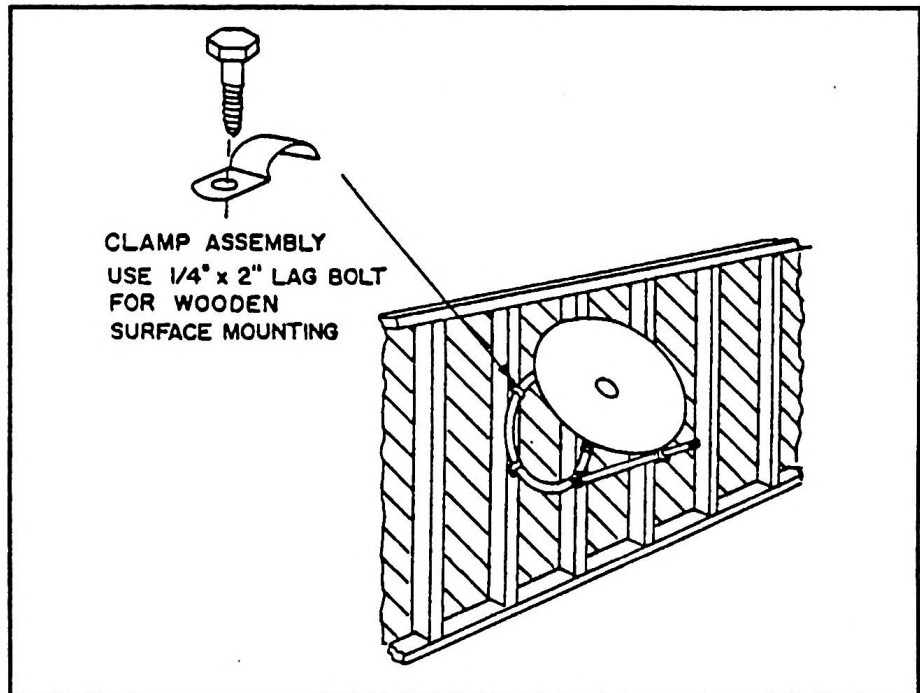

Figure 4-5. Wall Mount
1. Refer to Figure 4-5. Place the antenna mounting ring/reflector
4. Secure the mounting ring/reflector assembly to the wall studs with the clamps and lag bolts (Figure 4-5). Do not completely tighten the clamps as the ring must be adjusted later. Proceed to Section 4.3, Low-Noise Converter Installation, by-passing Subsection 4.2.3.